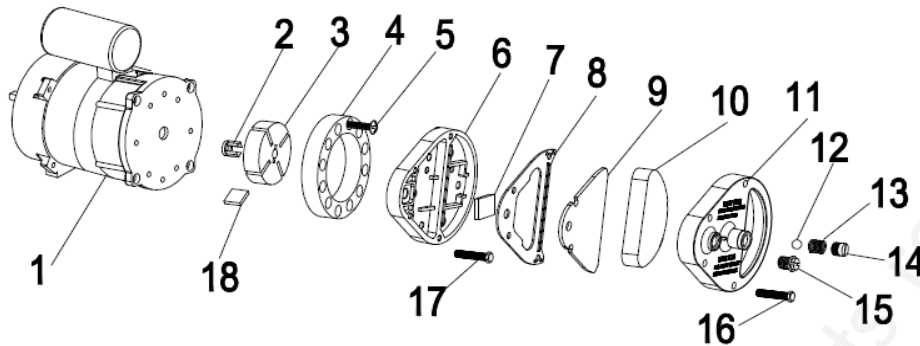

Figure 3
Clean air filters. Remove filter end cover (11), wash air intake filter (10) using a light detergent and dry it thoroughly before reinstalling. Replace air delivery filter (9) once a year (Figure 3).